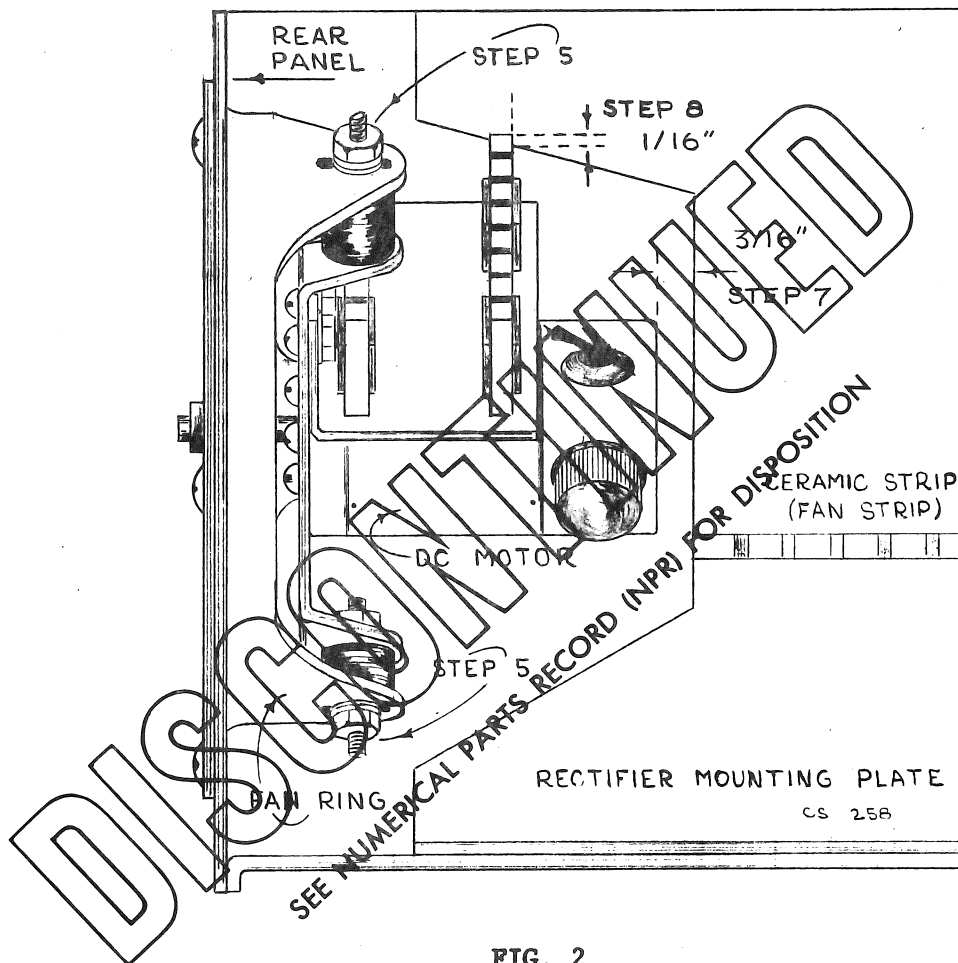

FIG. 2
- () 1. Unsolder the two black fan motor leads from the fan strip located on the rectifier mounting plate (see Fig. 2, page 3).
- () 5. Loosen the shockmount outer nuts on the DC fan assembly from the kit (see Fig. 2, Step 5).
- () 7. Adjust the position of the shockmounts in the slotted holes to provide at least $3/16$ in. clearance beyond the end of the DC motor (see Fig. 2, Step 7).
- () 8. If there is not at least $1/16$ in. clearance between the rectifier mounting plate and the ceramic strip (see Fig. 2, Step 8), turn the DC fan rectifier bracket slightly by loosening the two mounting screws.
- () 10. Solder the two (2) white wires from the DC fan rectifier to the two (2) white wires (from T600, terminals 11 & 12) on the fan strip (see Fig. 2).